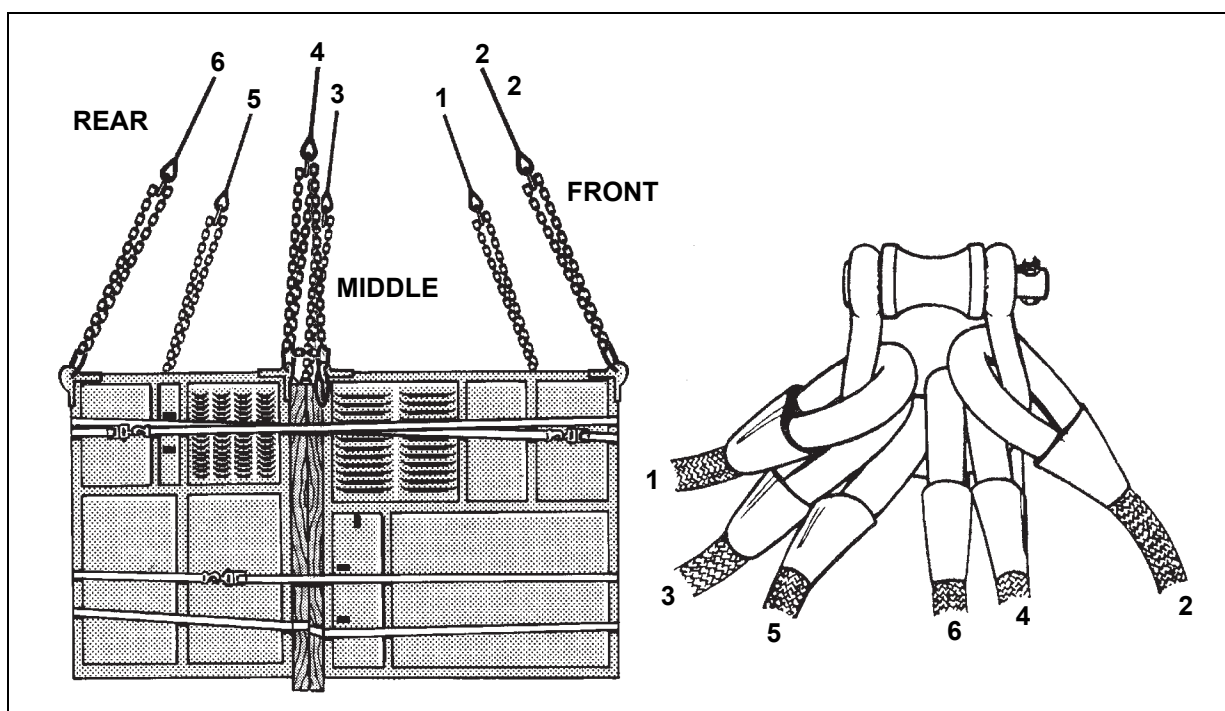

Figure 6-13. Load with Six Lift Points
- Some loads use six lift provisions and six sling legs. Figure 6-13 shows that the apex fitting was disassembled and two additional legs were added. Each pair of sling legs (sling legs 1 and 2, 3 and 4, and 5 and 6) may not vary more than 6 inches in length, from each other. The difference in length between the shortest and the longest sling leg of the set may not exceed 12 inches.